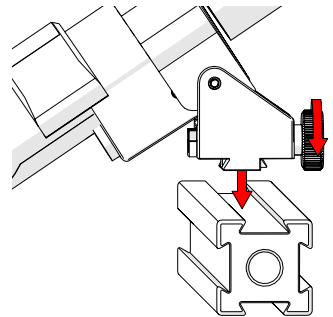

Fig. 159 - Mount on frame bar
2. Mount the laser guide to the frame bar, tighten the laser guide knob (Fig. 159).